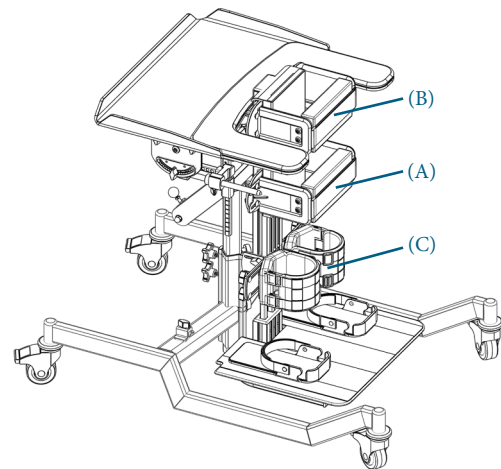

Fig. 11.2.1 - VERTIFLEX Standard Prone shown
11.2.1 VERTIFLEX – PRONE POSITION (Fig. 11.2.1)